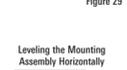

Figure 30
8. Continue to adjust until the bracket is also level from port to starboard (horizontally level as you look at the transducer from behind the boat (Figure 30)).